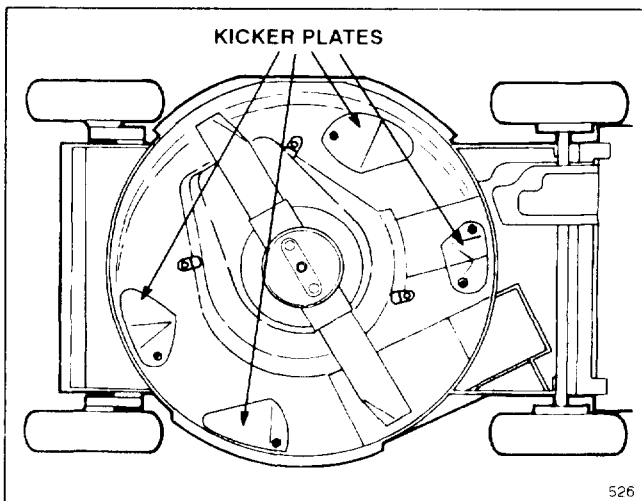

Figure 8
- Four "kicker plates" positioned on the underside of the mower deck in strategic positions (Fig. 8)